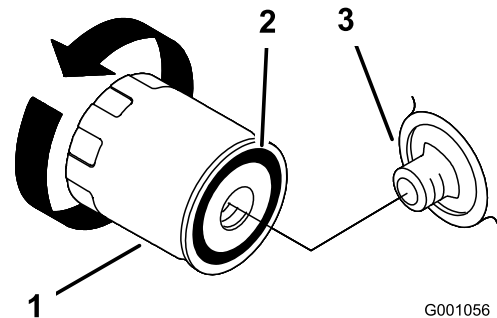

Figure 18
2. Remove the old filter and wipe the filler adapter gasket surface (Figure 18).
3. Apply a thin coat of new oil to the rubber gasket on the replacement filter (Figure 18).
4. Install the replacement oil filter to the filter adapter, turn the oil filter clockwise until the rubber gasket contacts the filter adapter, then tighten the filter an additional 2/3 to 1 turn (Figure 18).